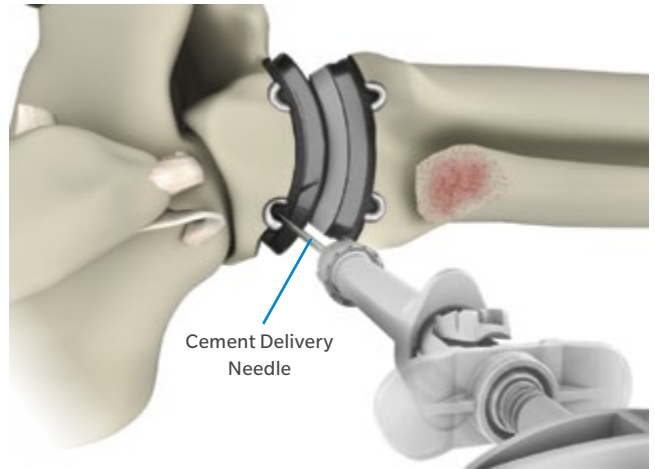

Fig. 96 Deliver cement under implant rails using the Cement Delivery Syringe and Needle.
- Deliver bone cement under each of the implant rails for the tibial and Talar Implant (Fig. 96).